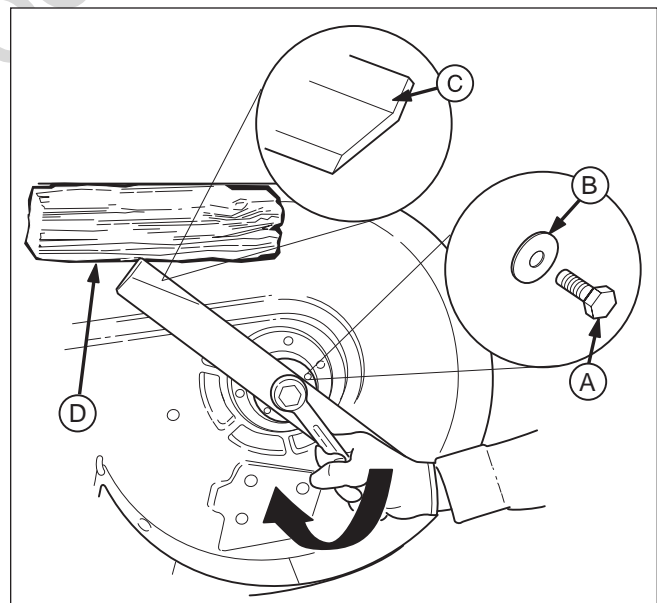

Figure 17. Tightening the Mower Blade for Installation
1. Reinstall each mower blade with the air lifts pointing up towards the mower deck as shown in Figure 17. Wedge a wooden block between the mower blade and the mower deck housing, and secure the mower blade with the mower blade mounting bolt and flat washer (A & B, Figure 31) and torque to 120 ft. lbs (163 Nm).